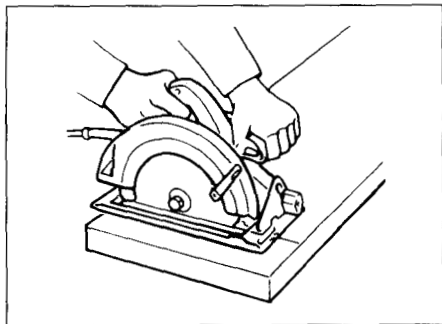
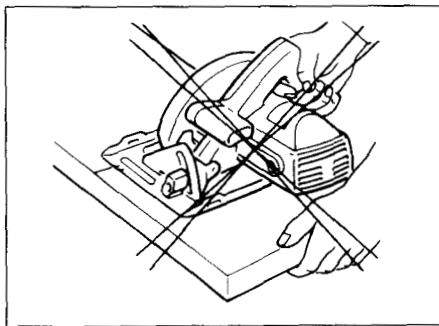

Fig. 5
Fig. 6
10. Place the wider portion of the saw base on that part of the workpiece which is solidly supported, not on the section that will fall off when the cut is made. As examples, Fig. 5 illustrates the **RIGHT** way to cut off the end of a board, and Fig. 6 the **WRONG** way. If the workpiece is short or small, clamp it down. **DON'T TRY TO HOLD SHORT PLACES BY HAND!**